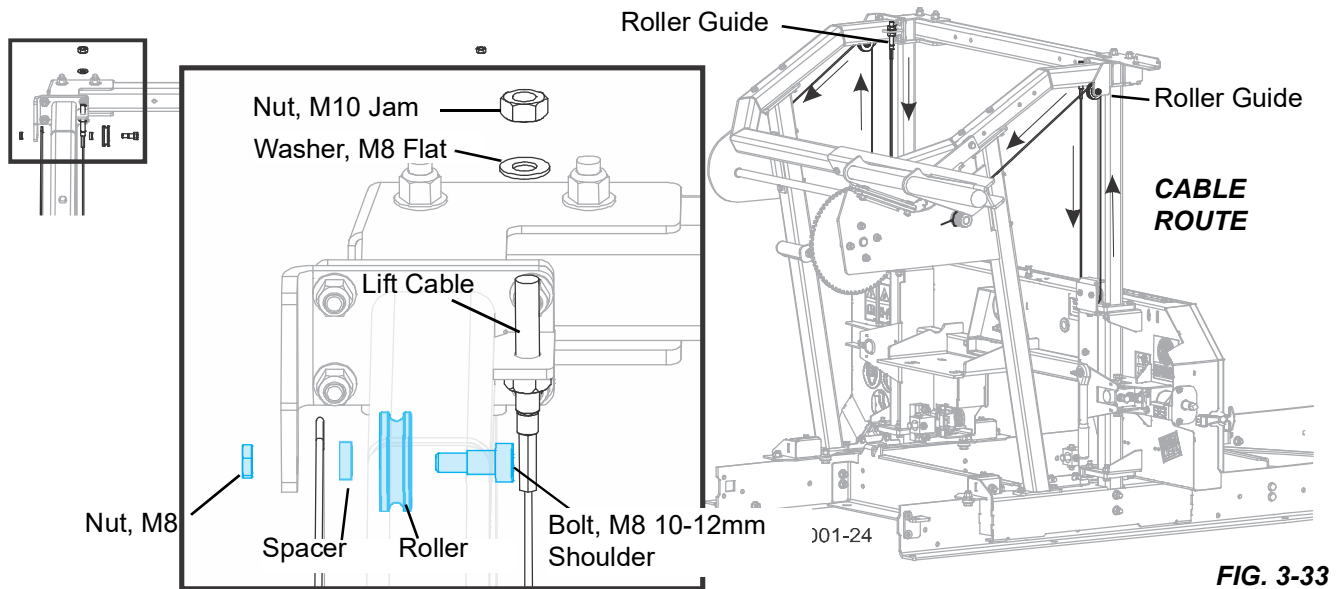

FIG. 3-33
1. Assemble the roller guides in the corners of the masts as shown in Fig. 3-33.
6. Attach the lift cable to the bracket as shown in Fig. 3-33.